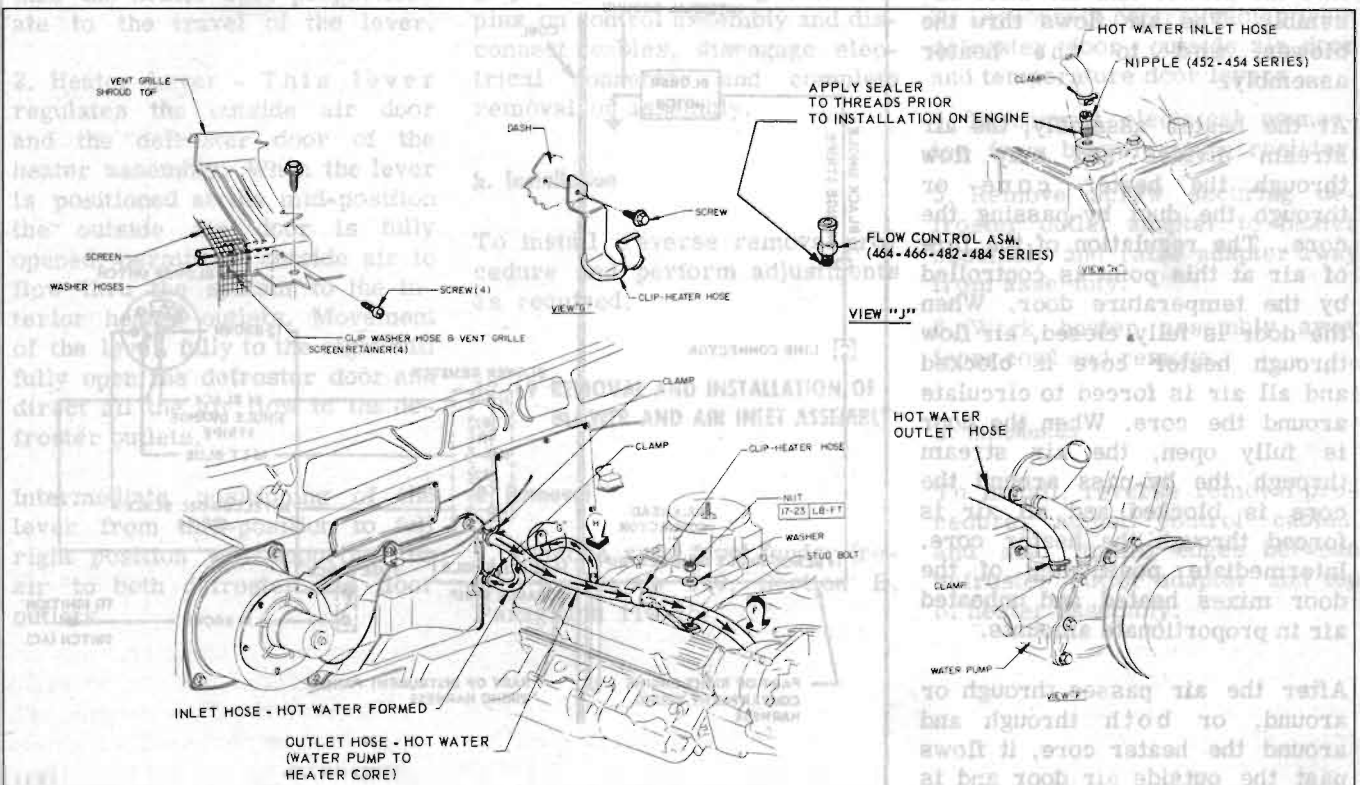

Figure 12-12—Heater System Coolant Circulation
The flow of coolant through the heater system is shown in Figure 12-12.
1. Drain radiator and disconnect heater inlet and outlet hoses at cowl (see Figure 12-12).